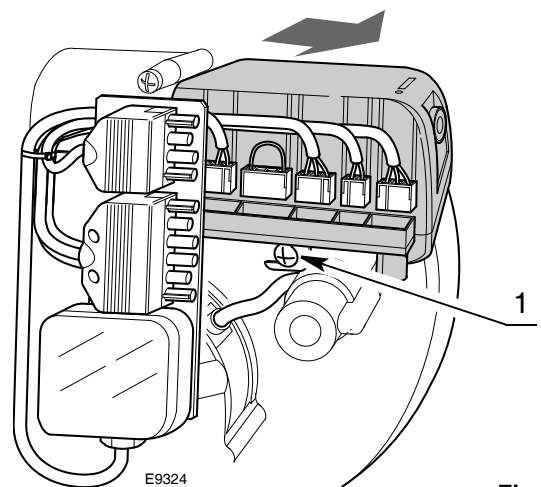

Fig. 17
- disconnect all the connectors connected to it, the 4-in plug, the 6-in plug, the high voltage cables, and the earth wire (TB);
- loosen the screw 1)(Fig. 17) and pull the control box in the direction of the arrow.
- tighten screw 1)(Fig. 17) with a tightening torque of $1 \div 1.2$ Nm;